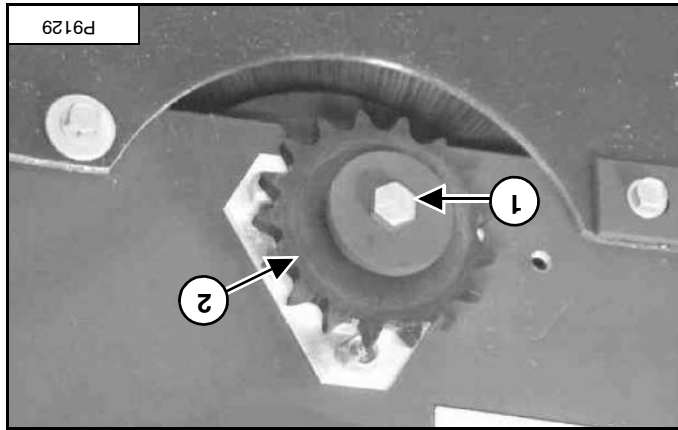

Figure 132
Install the sprocket (item 2) [Figure 132].
Install the bolt (item 1) [Figure 132] and washer on to the end of the broom shaft.